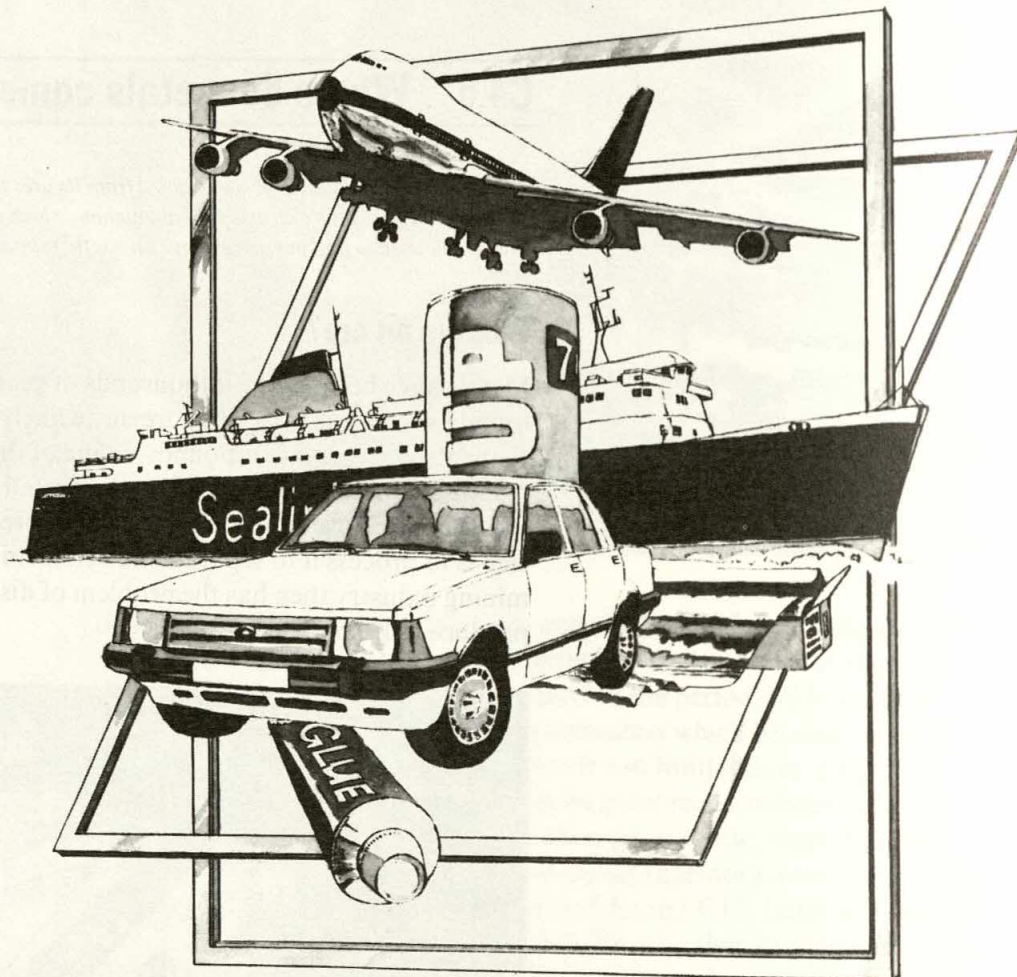

Figure 4.35
- 52 With the help of figure 4.35 and your everyday experience, make a list of ten uses of aluminium. For each of the uses you list, suggest which of the properties of aluminium make it a suitable metal for the purpose.